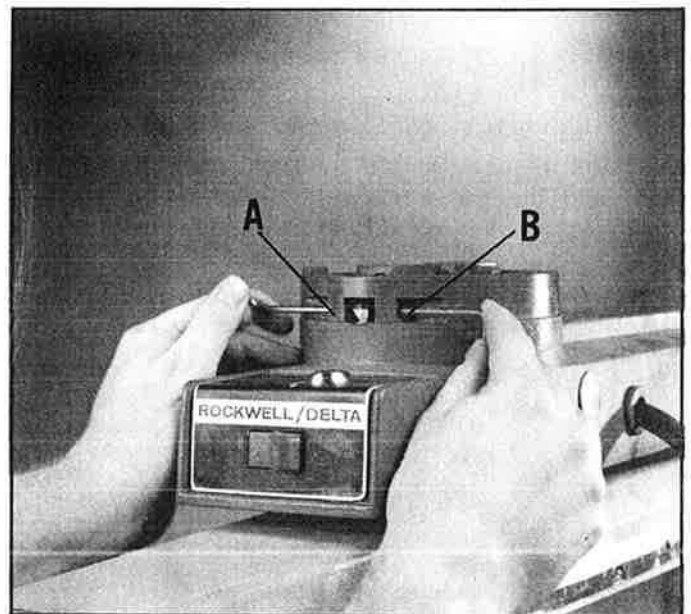

Fig. 29
5. To move front end of track to the right, loosen set screw (A) and tighten set screw (B) Fig. 29. To move front end of track to the left, reverse this procedure.